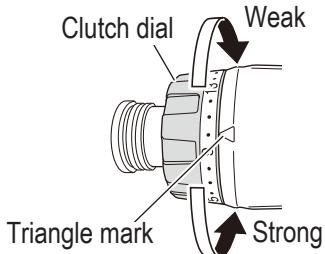

Fig. 13
6. Confirm the clutch dial position (Fig. 13)
(2) Tightening torque indication (Fig. 13)
(3) Adjusting the tightening torque (Fig. 13)